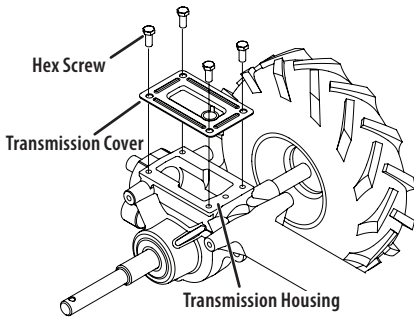

Figure 24
- Remove all dirt and clean the area around the transmission cover. See Figure 24.
- Remove the four hex screws (5/16-18 x .75) securing the transmission cover to the drive shaft and remove the cover. See Figure 24.